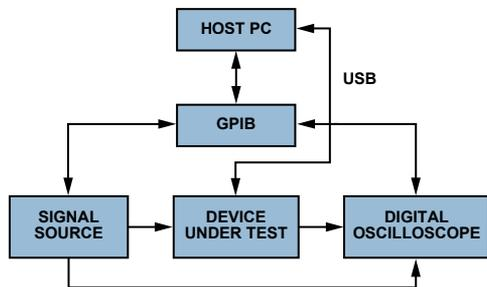

Figure 2. Functional model of the test system.
- Q.** To qualify a recent design, I had been working on a programmable feedback network and needed to collect hard data to verify the expected behavior. To collect the data, I evaluated the available test equipment and pieced together a crude open-loop measurement system using a general-purpose interface-bus (GPIB) IEEE-488 interfacing card, a simple digital oscilloscope, and an arbitrary function generator (see Figure 2).